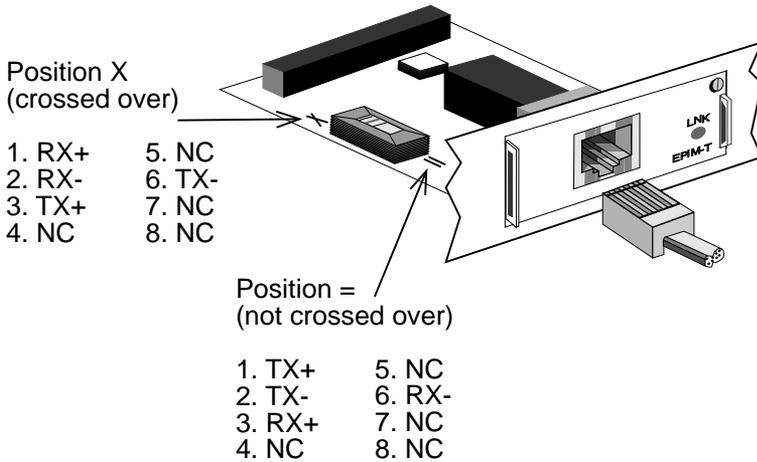

Figure 3-1. EPIM-T Cross-over Switch
Before connecting a segment to the EPIM-T, check each end of the segment to determine if the wires have been crossed-over for the proper connection. If the wires do not cross over, use the switch on the EPIM-T to internally cross over the RJ45 port. Refer to Figure 3-1 to properly set the EPIM-T cross-over switch.
1. Insert the RJ45 connector on the twisted pair segment into the RJ45 port on the EPIM. See Figure 3-1.